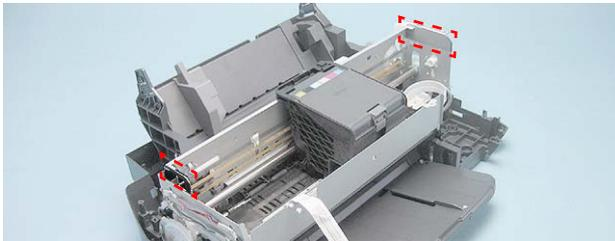

Figure 4-82. Handling of the Printer Mechanism
3. Referring to ““Figure 4-82. Handling the Printer Mechanism (p.87)””, remove the Printer Mechanism from the Lower Housing.